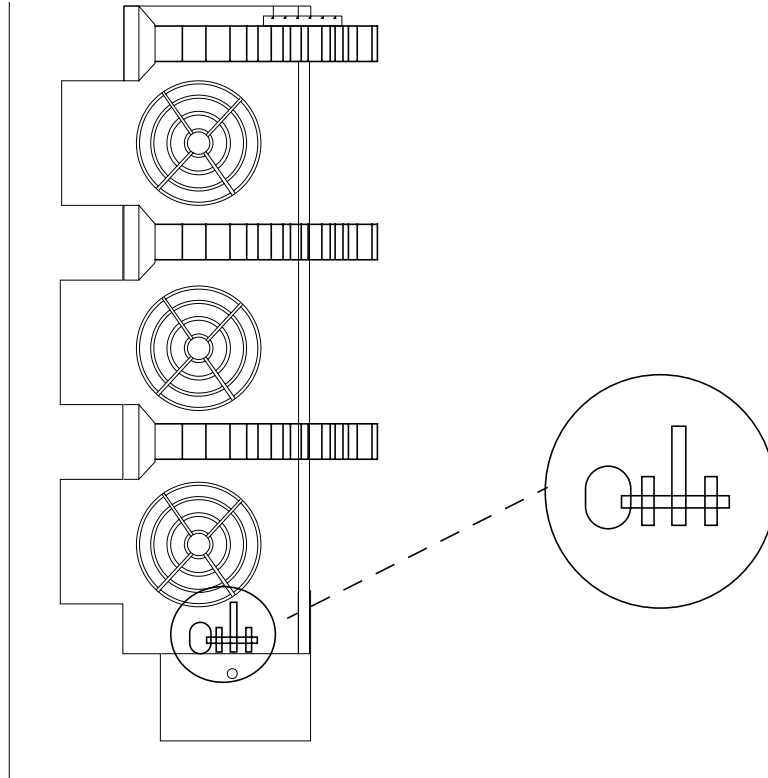

FIGURE B-13 HDSA Drawer Retractor Pin
5. Fully extend the system cabinet right HDSA drawer (HDSA drawer 2, shown in FIGURE B-1). A metal pin installed at the rear of the cabinet near the bottom HDSA cable track prevents the drawer from moving manually. See FIGURE B-13.